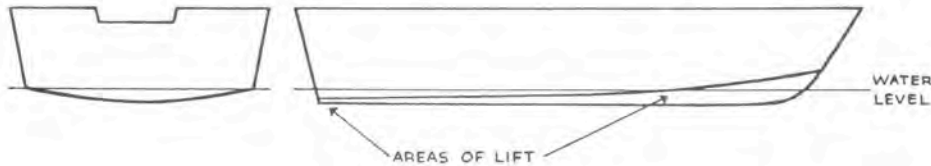

Fig. 5 Planing hull.
As in aircraft design there is the sound barrier, so with boats there is the 'water barrier', which, for the average runabout, might be about 5 m.p.h. That is, to attain a speed greater than 5 m.p.h. the boat must rise out of the water and plane across the surface of it, thus reducing the area of friction and drag (Fig.5).
8. Where would you put a motor in Fig. 5? Where in Fig. 6? Draw it in.
9. Where would you put a sail/mast in Fig. 5 and Fig. 6? Why?